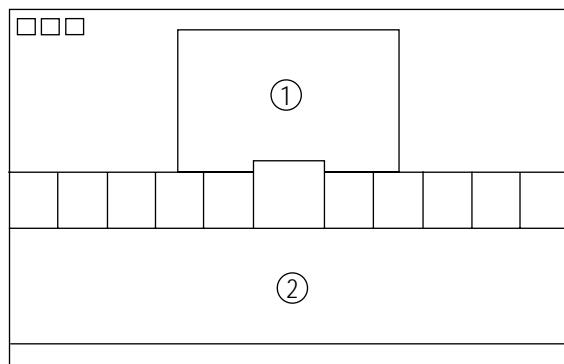

Fig. 4-4
1. Set SBT to  $2.5 \pm 0.5$  fL in the Factory Service Mode with using CA100. See Fig. 4-4 ②.
1. 50 21"flat in the Factory Service Mode with using CA100. See Fig. 4-4 ①.